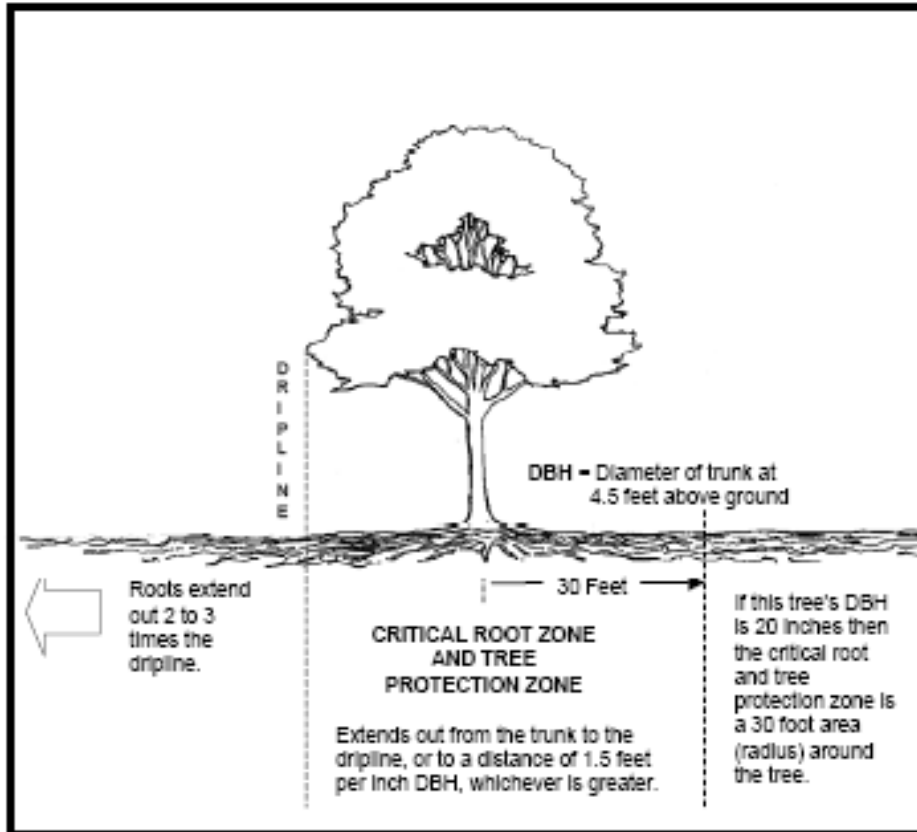

Figure 1. Location of the Critical Root Zone and Tree Protection Zone
**1.11.3.** For existing trees, there is a minimum amount of area, above (for the trunk and crown) and below ground (for soil health and the root system) that is required to protect trees and preserve tree health. This area has been identified as the critical root zone (CRZ) or tree protection zone (TPZ) by various experts and is generally agreed to be equivalent to the soil area below ground and the space above ground defined by the tree’s drip line, or the greatest extent of the branches. This is depicted in Figure 1: